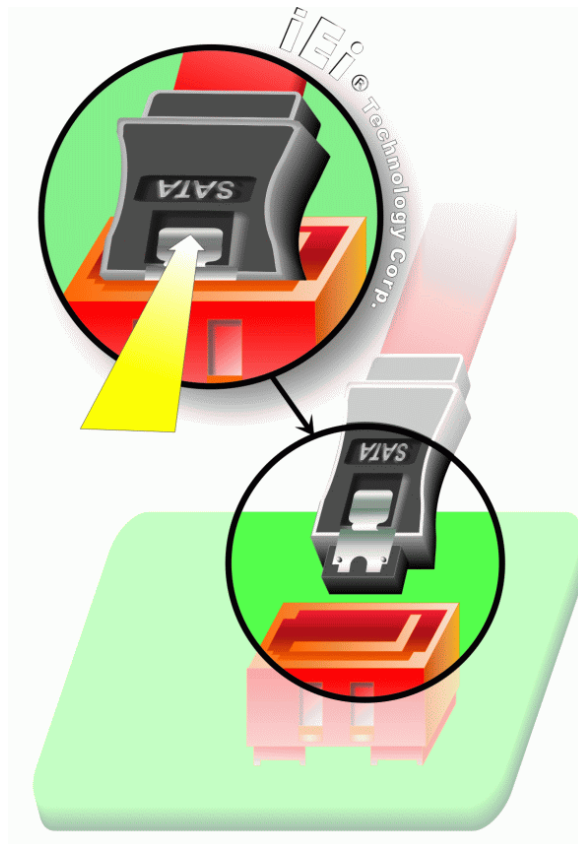

Figure 5-15: SATA Drive Cable Connection
Step 2: Insert the cable connector. Press the clip on the connector at the end of the SATA cable and insert the cable connector into the onboard SATA drive connector. See **Figure 5-15**.